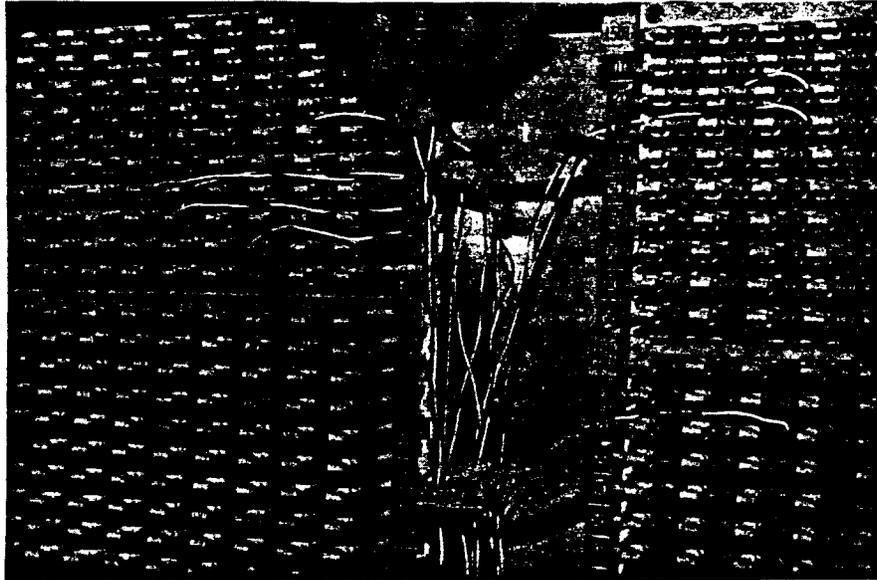

Figure 19. Forming Finger Loop and Placing Wire in Wiring Trough
- (1) Using an orange stick, dress the cross-connecting wire horizontally along the row of connectors. Do not use a screwdriver or scissors to dress the wires.
5.04 Form a finger loop for slack as follows (Figure 19):